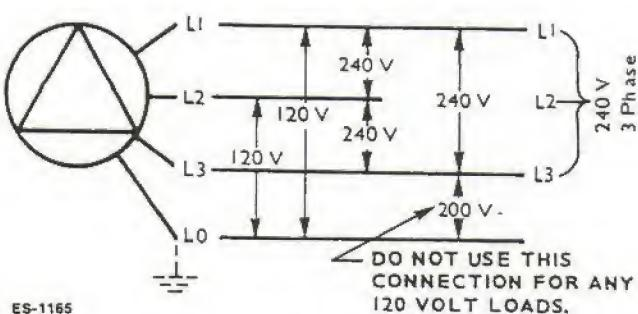

FIGURE 14. 120/240 V. 3-PHASE DELTA
**120/240 Volt, 3 Phase, Delta Connected Set; 12 Lead:** The 3 phase Delta connected set is designed to supply 120 and 240 volt, 1 phase current and 240 volt, 3 phase current. For 3 phase operation, connect the three load wires to generator terminals L1, L2 and L3—one wire to each terminal. For 3 phase operation the L0 terminal is not used. See Figure 14.